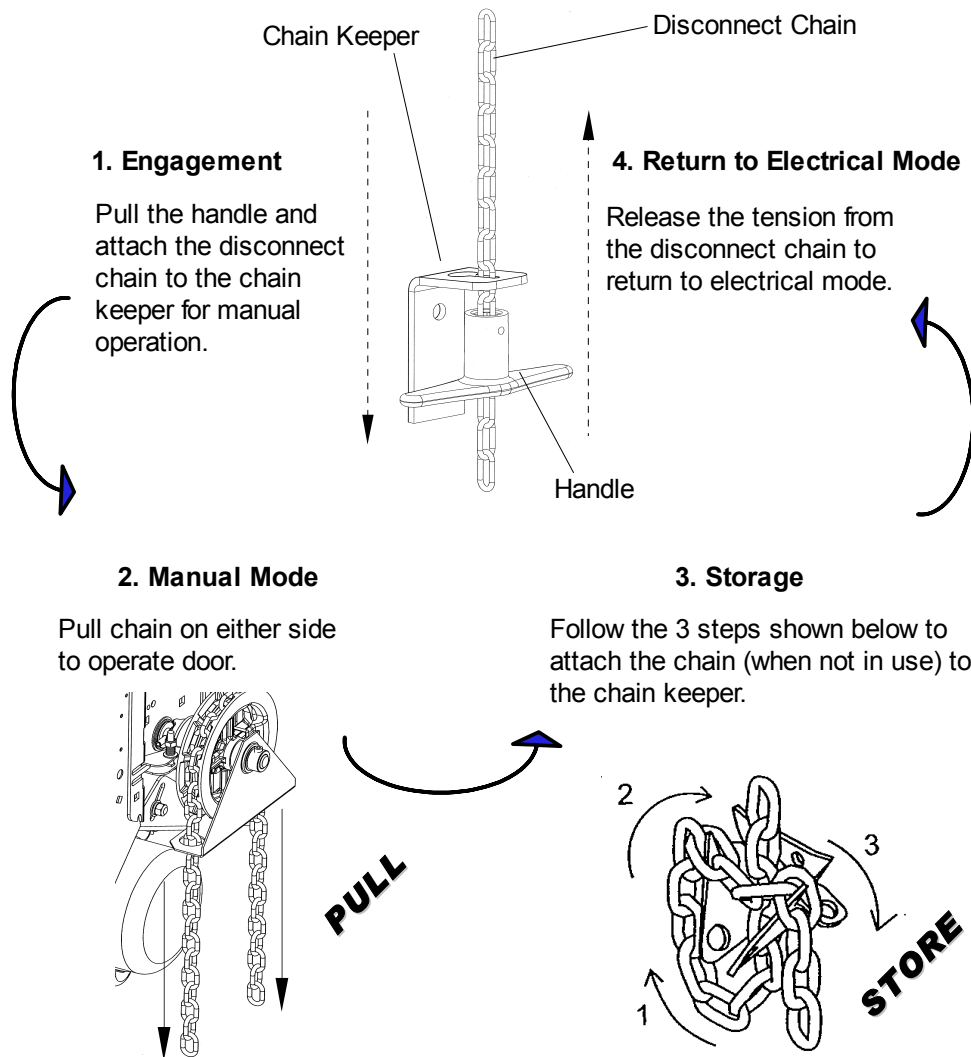

Figure 12 - Hoist Engagement and Hoist Operation
- engage the manual hoist mechanism, see Figure 12